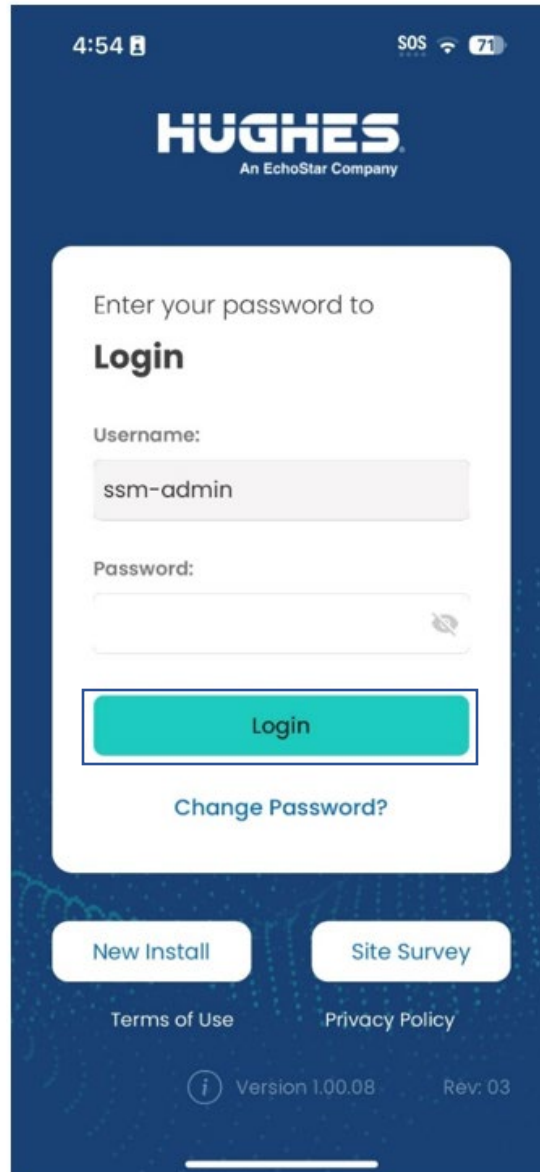

Figure 129: Login screen
2. Once this is completed, launch the app on the smart phone, enter password and click on the **Login** button shown in Figure 129.